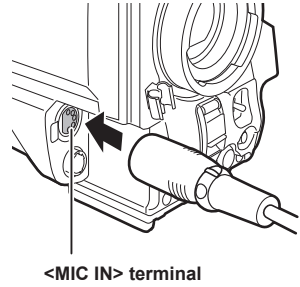

Fig. 3
- 3** Connect the connection cable of the microphone to the <MIC IN> terminal on the camera. (Fig. 3)